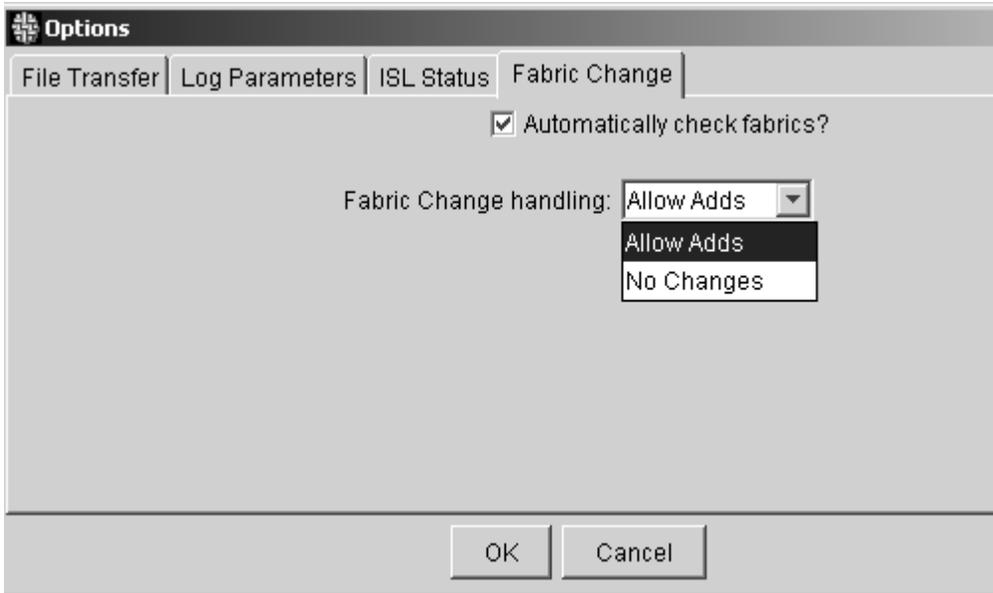

Figure 4–7: Fabric Change tab in the Options dialog box
2. Click **Fabric Change** tab. The **Fabric Change** tab displays, as shown in Figure 4–7.